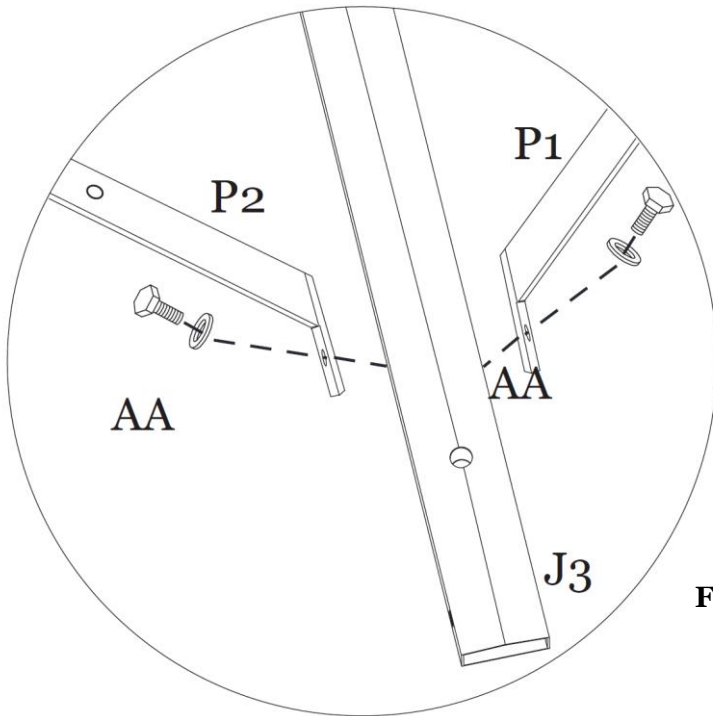
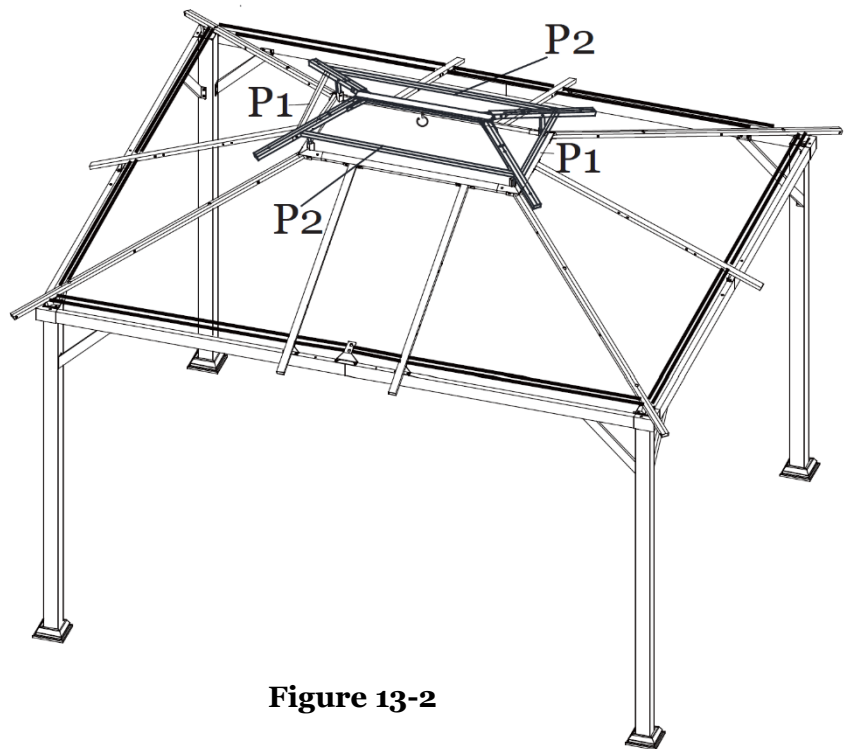

Figure 13-1
Figure 13-2
Step 13: Attach the sides of the Roof Vent Frame by connecting the Short Side (P1) and Long Side (P2) to the Roof Vent Corner Support (J3) using Bolts/Washers (AA). See Figure 13-1 and Figure 13-2. Repeat for remaining Short Side (P1) and Long Side (P2). **Tighten all Bolts.**